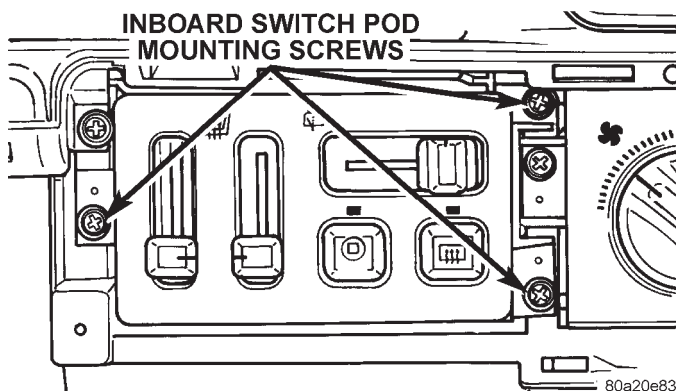

Fig. 3 Inboard Switch Pod Remove/Install
(1) Disconnect and isolate the battery negative cable.
(2) Using a trim stick or another suitable wide flat-bladed tool, pry gently around the edges of the inboard switch pod bezel and remove the bezel.
(3) Remove the three screws that secure the inboard switch pod to the instrument panel (Fig. 3).